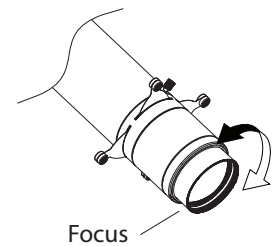

FIG. 11
4. To orient the rotation of the frame or Gobo accessory, loosen the thumb screw, rotate the lens about the fixture body to align. When complete, tighten the thumb screw to fix the lens. (See **FIG. 11**)